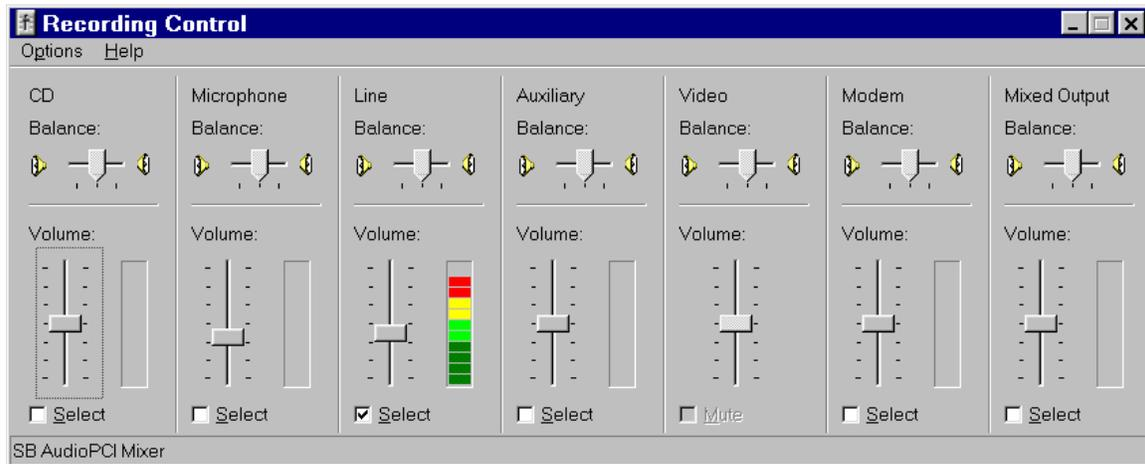

Figure 7.2 PC Rx Volume Control Panel
7.4.1.2 Set the initial PC audio level - Set the sliders on volume control to the positions shown in figure 7.2. Volume around half, Wave around one third.